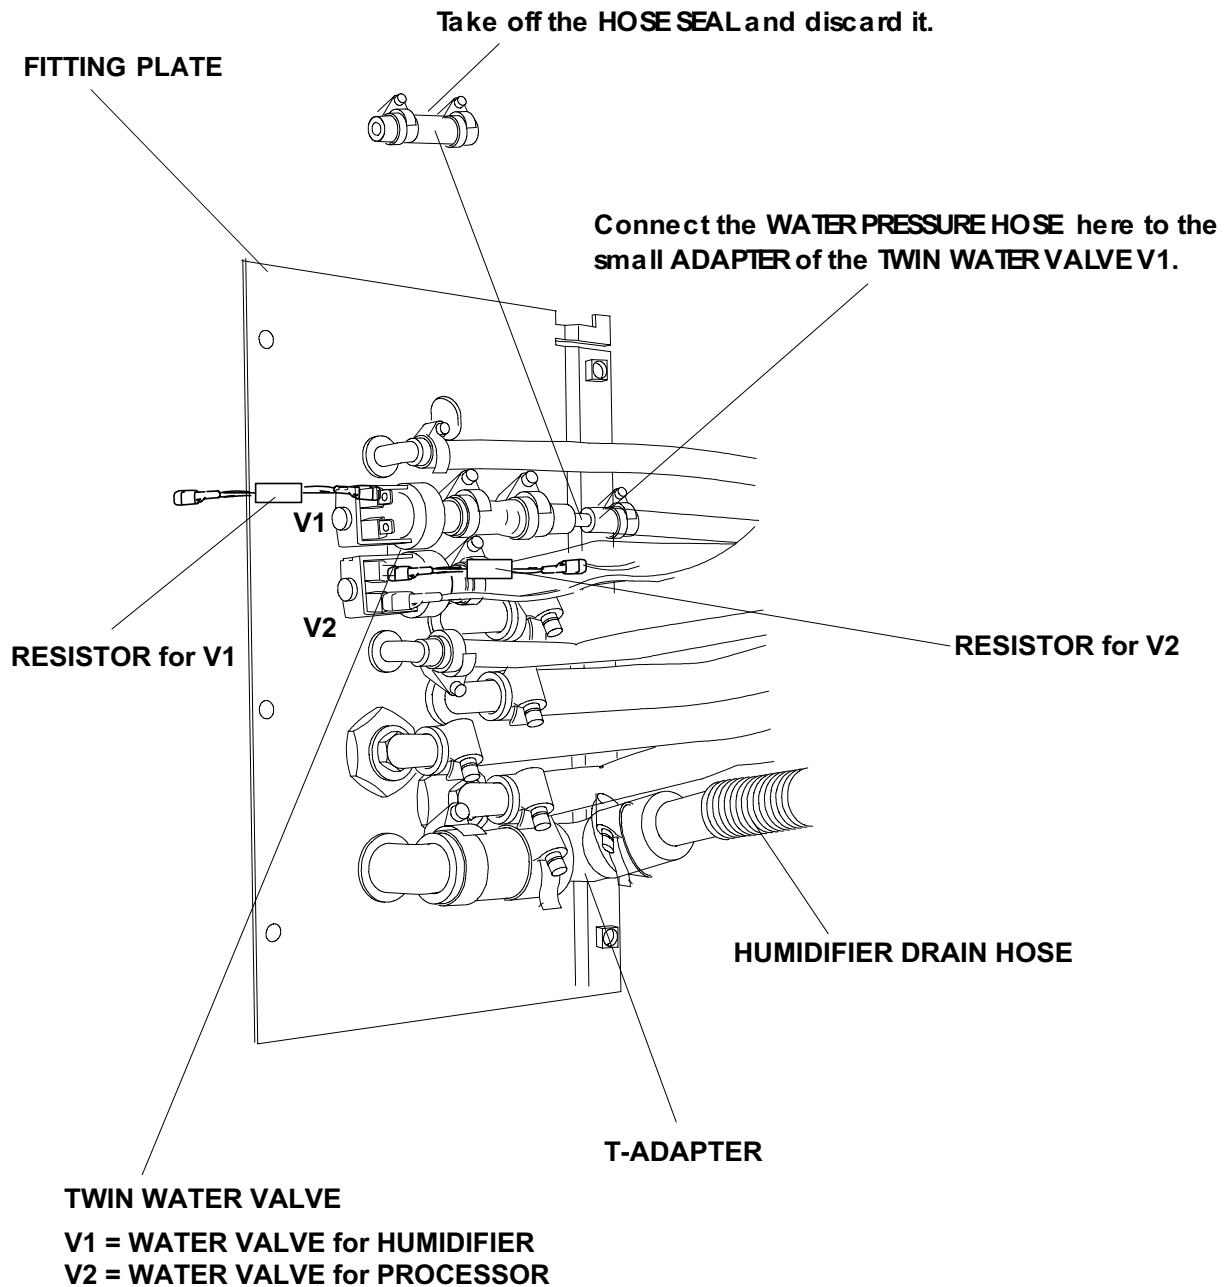

figure 3-11
23. Take off the FITTING PLATE. See figure 3-11.
26. Connect the WATER PRESSURE HOSE to V1 of the TWIN WATER VALVE. Secure the hose with a HOSE CLAMP. See figure 3-11 on the next page.